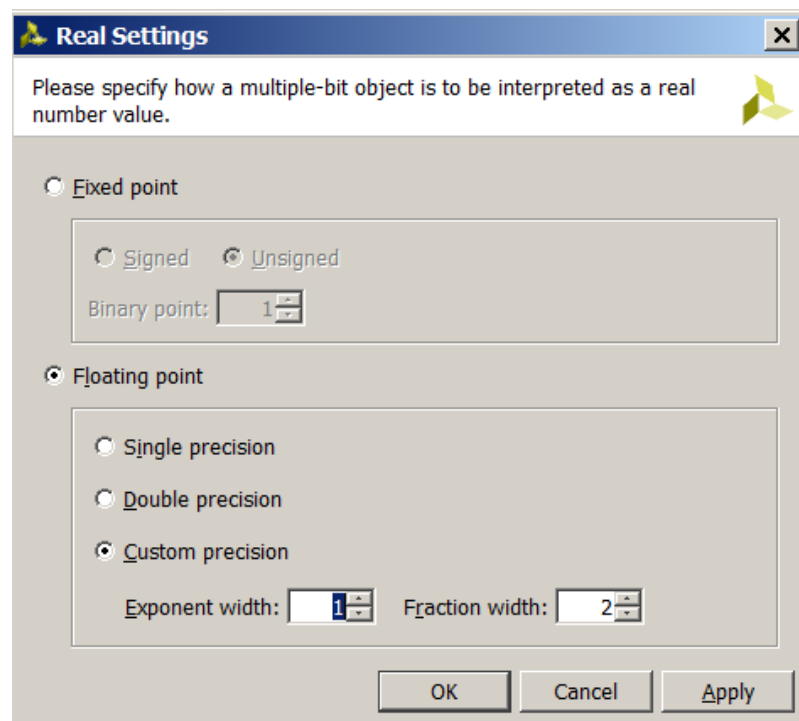

Figure 5-2: Real Settings Dialog Box
1. Open the **Real Settings** dialog box, shown in Figure 5-2.